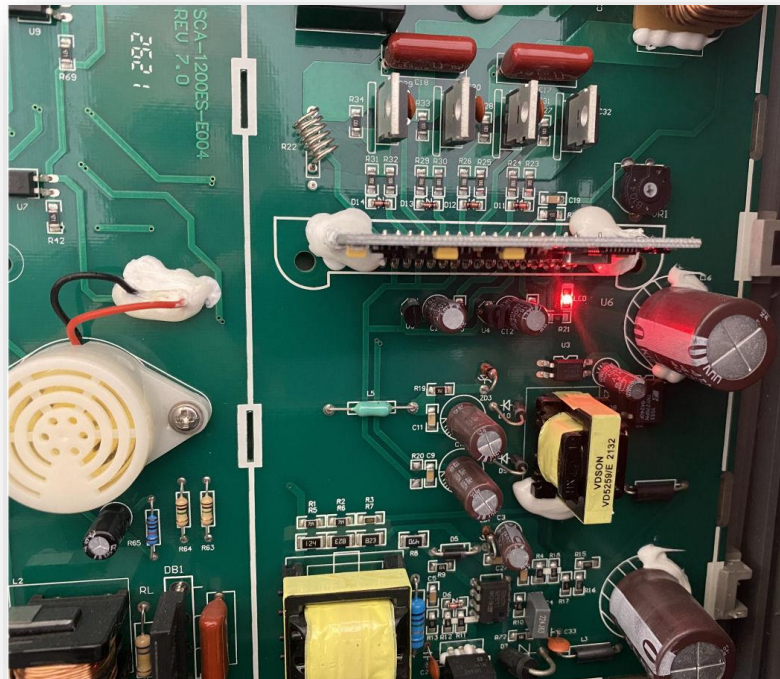

Figure 22 – Inverter LED
- The LED on the PCB (**See Figure 22**) should be constantly lit when the SCA is powered up. If it is blinking, it indicates there is an error on the Inverter Circuit. This can point to a probable defective PCB.